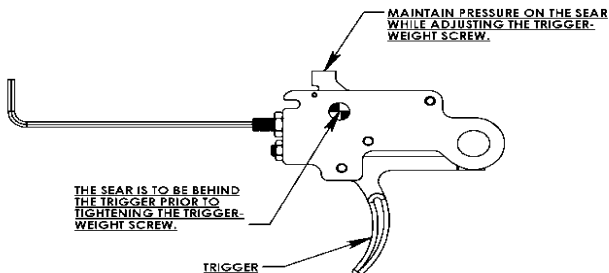

Figure 33.
2. Pull the trigger and depress the sear. (*Figure 33, Step A and B.*) Turn the trigger-weight screw clockwise until the plunger is fully compressed in the trigger-weight screw. Turn the trigger-weight screw counter clockwise 1/4 turn and tighten the brass jam nut.